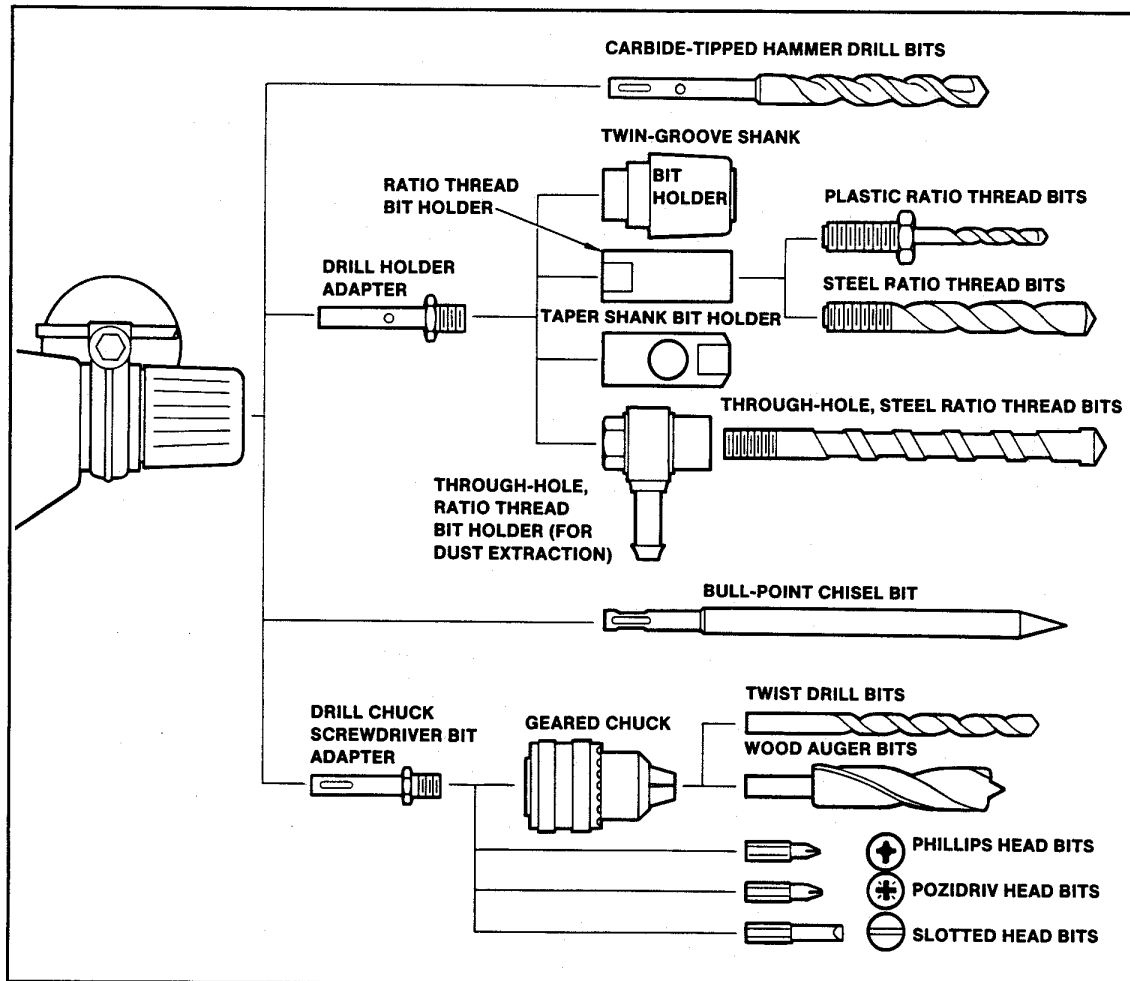

Figure 2. Hammer Drill Accessories
- Use only SD Plus tool bits and adapters (see Figure 2).
There is no setting for hammering only, however, Figure 2 shows a bull-point chisel bit that can be inserted to chip while the chuck is turning in the hammer drill mode.
To install twin-groove shank, ratio thread shank, taper shank, or through-hole shank bits, install the Drill Holder Adapter as described above. Then simply screw the appropriate bit holder onto the drill holder adapter. Figure 2 illustrates these adapters and bit holders.
To install the Geared Chuck for use with standard drill bits and screwdriver bits in non-percussion drill mode, install the Drill Chuck/Screwdriver Bit Adapter as described above. Then install the appropriate bit into the Geared Chuck and tighten with the chuck key. Figure 2 illustrates the adapter, Geared Chuck, and various standard bits.